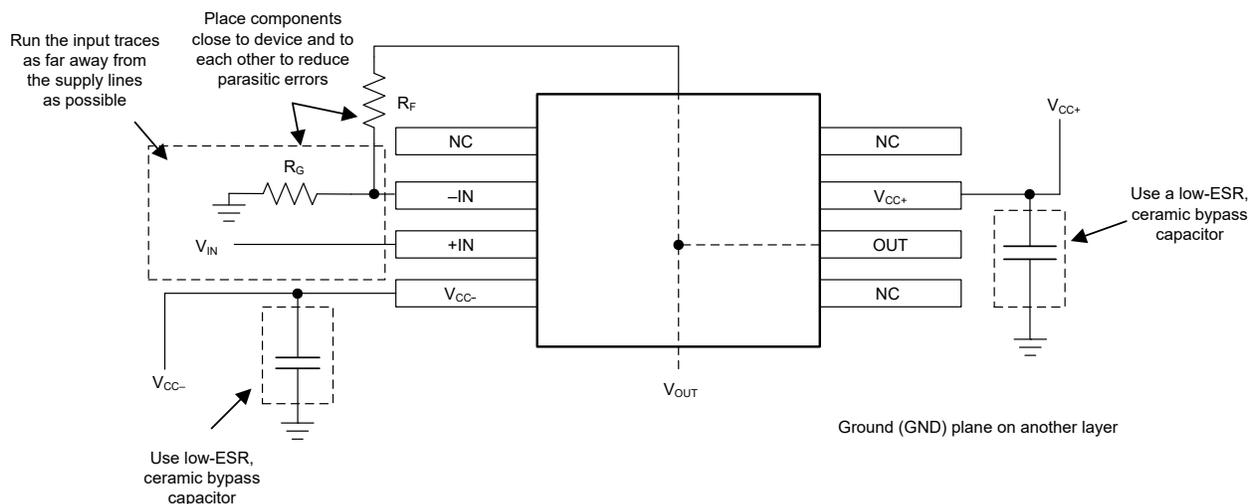

Figure 7-4. Operational Amplifier Board Layout for Noninverting Configuration
4. Place the external components as close to the device as possible. Figure 7-4 shows how to keep R_F and R_G close to the inverting input to minimize parasitic capacitance.